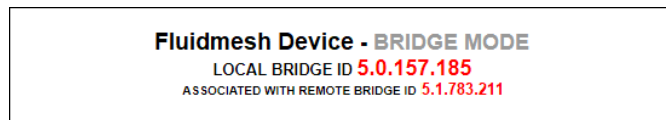

Figure 39. Configurator interface (Unit ID information)
- The unit ID number of the local unit is shown as the **LOCAL BRIDGE ID** (Figure 39 (page 103)).